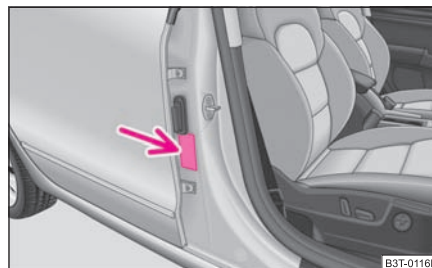

Fig. 165 Sticker on the centre column of the body on the front passenger side.
- This is also clearly stated on the sticker which is located on the centre column of the body on the front passenger side ⇒ **fig. 165**. The sticker is visible upon opening the front passenger door. For some countries, the sticker is also affixed to the sun visor of the front passenger.